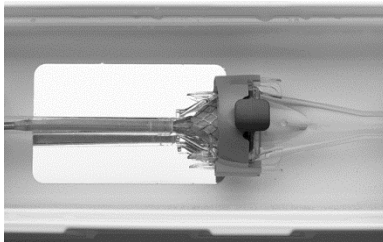

Figure 42
12. Continue to advance the capsule until it reaches the distal end of the commissure pad of the bioprosthesis (Figure 42). The capsule should completely cover the commissure pad.